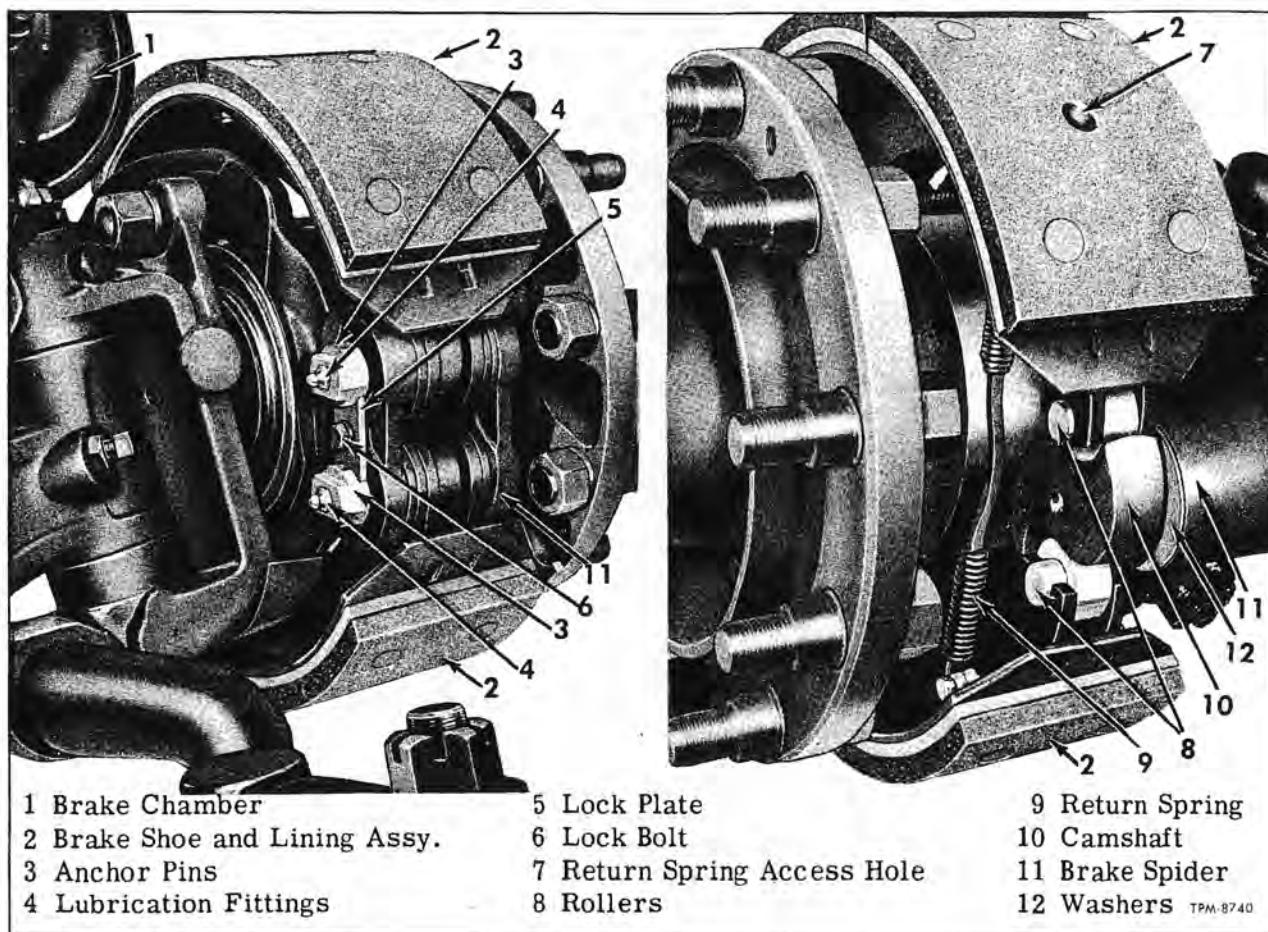

Figure 31—Front Brake Shoes Installed
Brakes at each front wheel have two shoes which pivot on anchor pins at one end and are expanded at the other end during brake application by constant lift S-type cams (fig. 31). Brake shoe return springs hold shoe rollers firmly against cam. Two-piece block type lining is bolted to each shoe. Holes through lining and upper shoe at cam end are provided to facilitate removal and installation of return springs.
Cam end of each shoe is equipped with a roller which forms the contact between shoe and cam (fig. 31). Anchor pin ends of shoes are equipped with replaceable bushings.
Anchor pin end of each shoe fits between brackets at brake spider, and is retained by straight type anchor pin (fig. 31). Both anchor pins are held in place by a lock plate which engages notches in end of each pin and is attached to brake spider by a lock bolt. Lubrication fittings are provided in each anchor pin so they can be lubricated at regular lubrication intervals. Refer to figure 31.
3. Install brake shoes at brake spider in same position from which they were removed. Coat anchor pins with lubricant and insert through brake spider and shoes. Turn anchor pins so notches in inner end face each other. Install anchor pin lock plate and secure with lock bolt and lock washer (fig. 31).